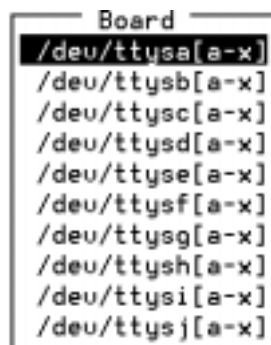

Figure 2-9. Board Status Menu
- The system displays the Board Status menu (Figure 2-9).
The system displays the Board menu (Figure 2-9).